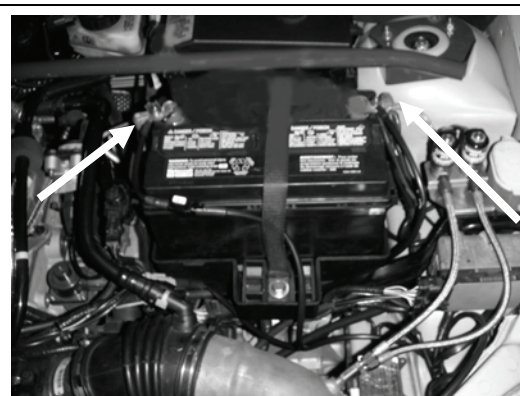

FIGURE 41
66. Connect the ground wire to the negative battery stud and the power wire (red wire end with the fuse block) to the positive battery stud. **(FIGURE 41)**